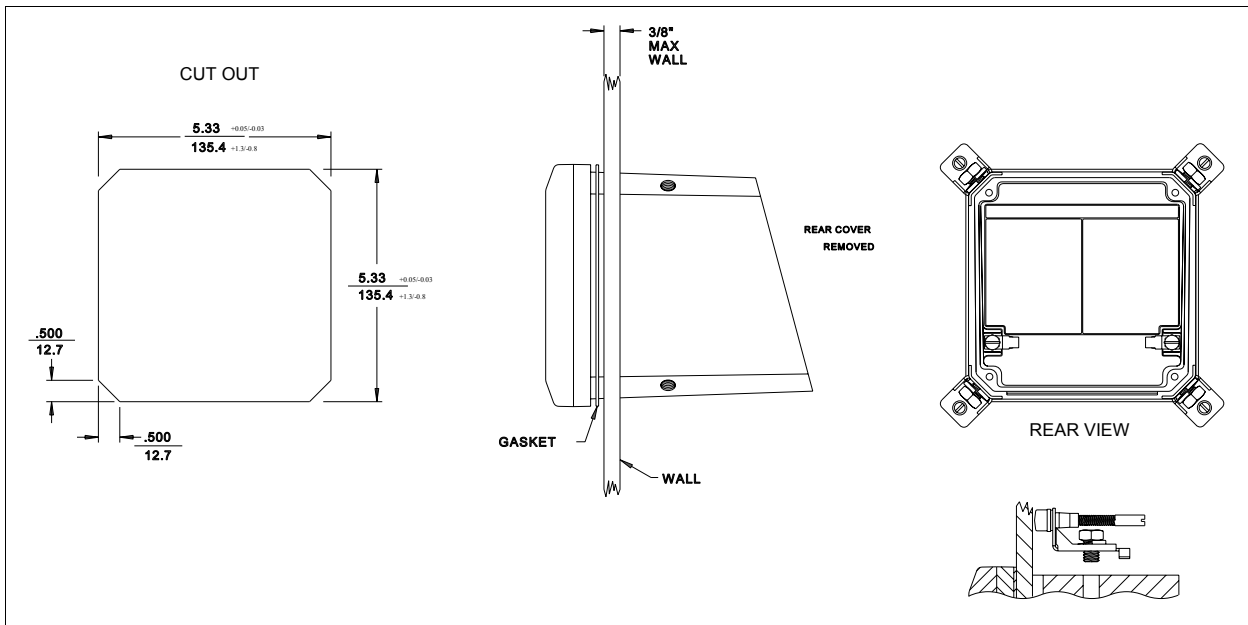

Figure 3-5. Panel Mount Installation Diagram
Using Figure 3-5 as a reference, mount the TB84TE analyzer as follows:
- 2) Cut a 135.4 mm x 135.4 mm hole with diagonal corners through the panel as shown in Figure 3-5.